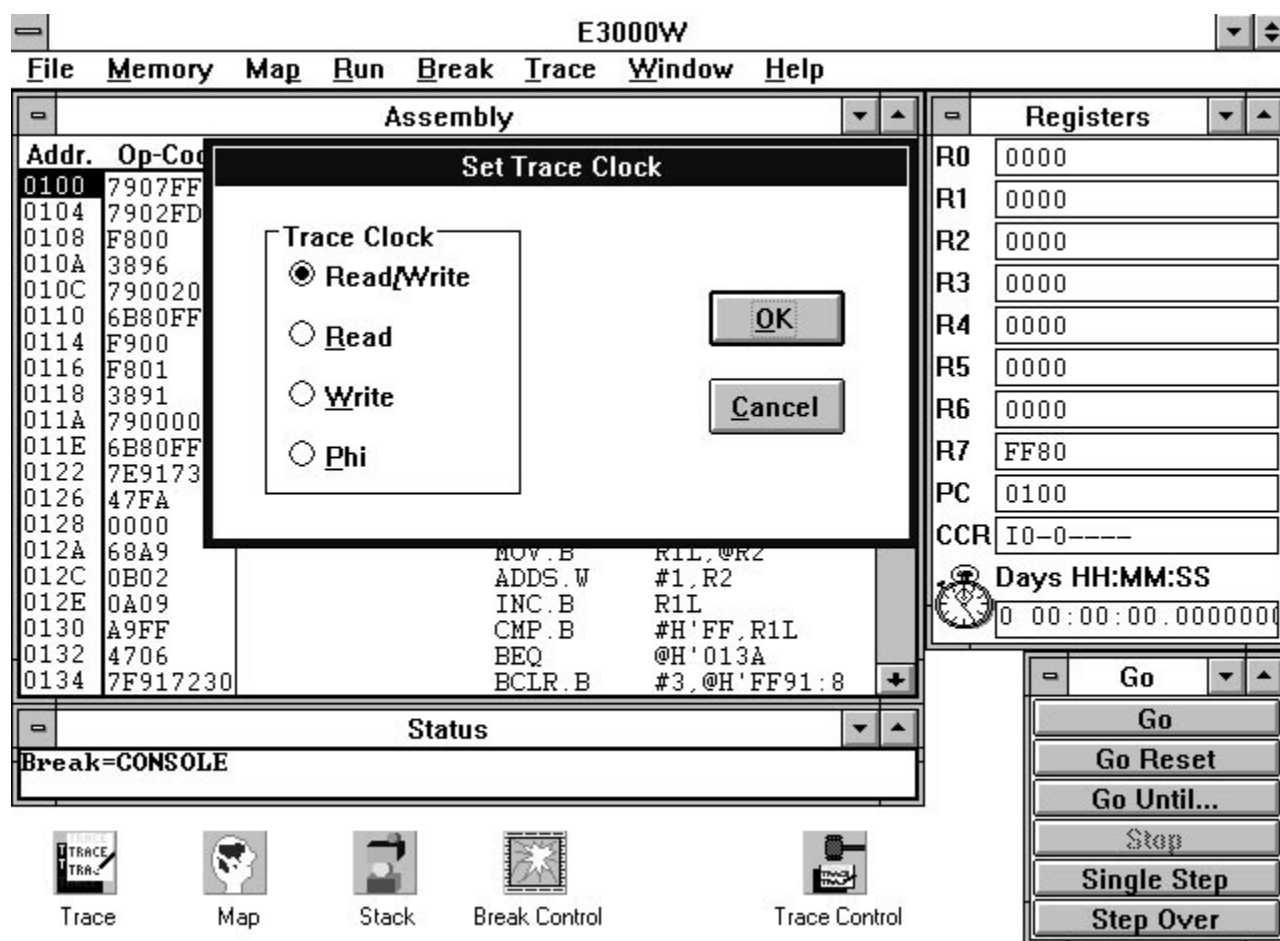

Figure 16.
2. Setting the trace clock determines what trace information will be captured in the trace buffer. Click on the *Set Trace Clock* option in the *Trace* file menu (see Figure 16). Four options are available: *Read/Write*, *Read*, *Write*, and *Phi*. The *Read/Write* option will cause all read and write cycles within the enabled portion of the trace map to be stored in the